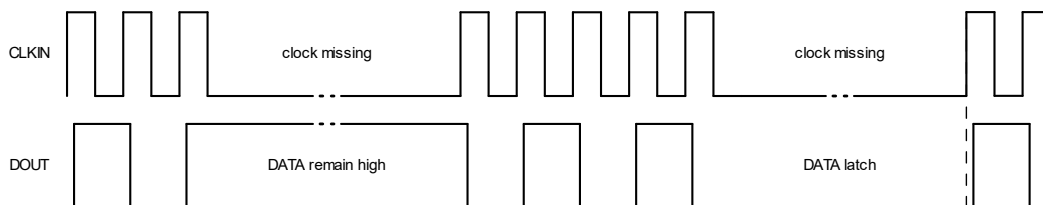

Figure 8.4 Clock missing behavior
- If the input clock signal is lost, the DATA output will remain in its previous state until the next clock rising edge arrives, as shown in Figure 8.4